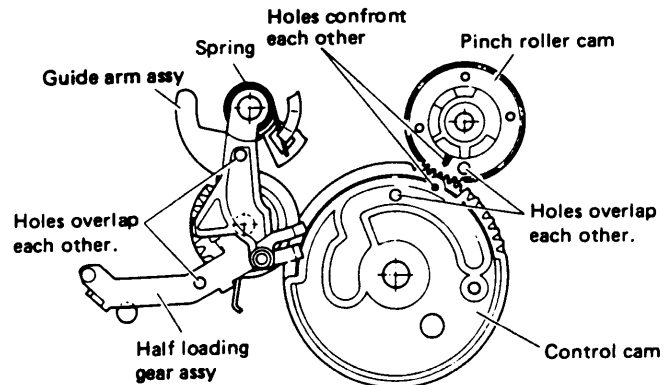

Fig. 1-1-7
1. On the main deck, observe the positional relationships of the parts indicated in Fig. 1-1-7. If necessary, turn the loading motor by hand to obtain these positions.